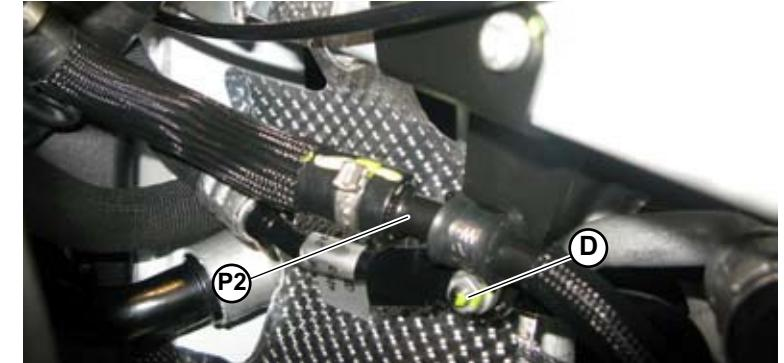

Fig.25
4. Loosen the screw (D-Fig.25) securing the rear part of the **P2** return pipe to the support bracket.